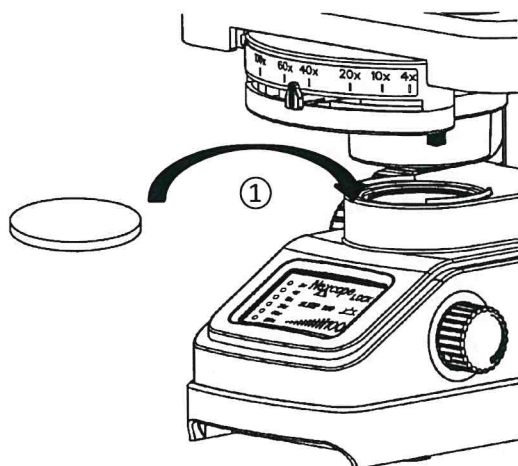

Fig.5
3-2-5 Install The Filter (Fig.5)
Put the filter in the seat of illuminator according to the path ① shown in Fig.5 .